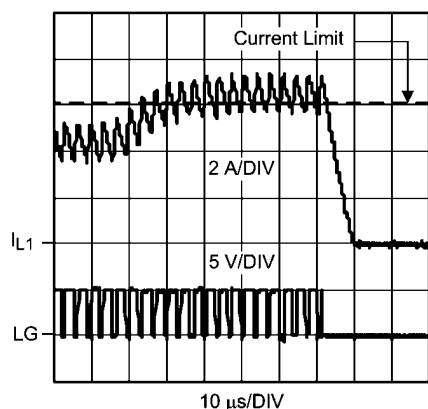

FIGURE 6. Entering Hiccup Mode
1. The low-side current sensing threshold has exceeded the current limit threshold for fifteen sampled cycles, see *Figure 6*. Each cycle is sampled at the start of each off time (t_{OFF}). The low-side current limit counter is reset when 32 consecutive non-current limit cycles occur in between two current limit events.